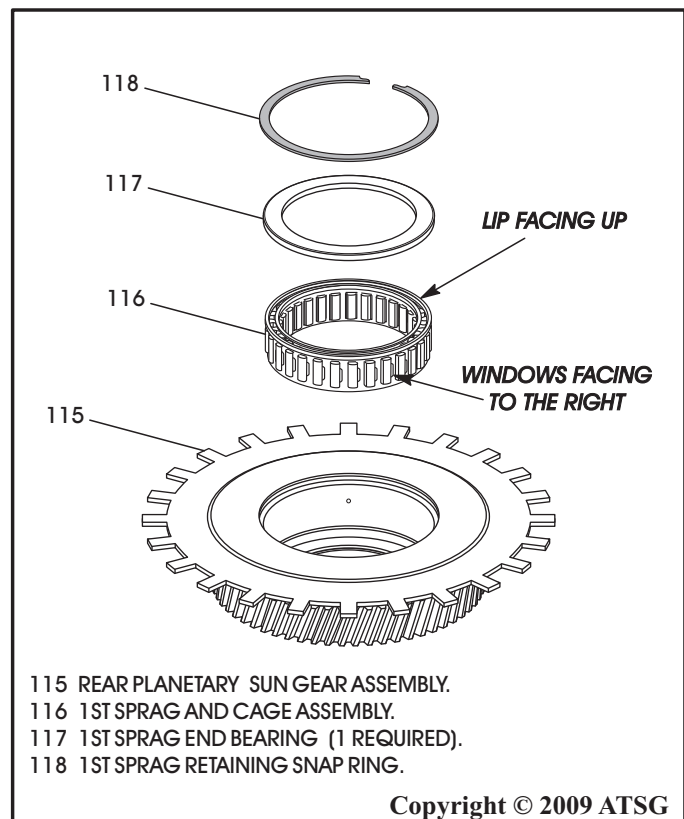

Figure 117
7. Turn rear planetary sun gear over and install the 1st sprag and cage assembly, as shown in Figure 117.
**Note:** Install with "lip" facing up and the "windows" facing to the right, as shown in Figure 117.
8. Install the 1st sprag end bearing, as shown in Figure 117.
9. Install 1st sprag retaining snap ring, as shown in Figure 117.